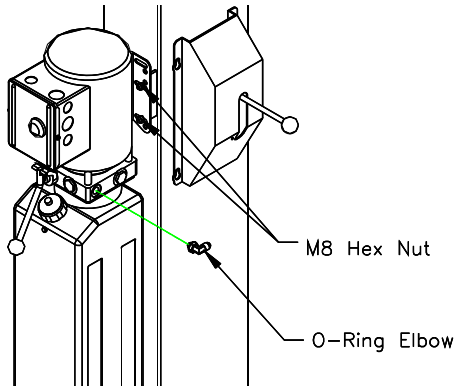

Fig 5 – Power Unit Mounting
- 18) Mount Power Unit to power column as shown in **Fig 5**. The mounting hardware, (4) M8 hex nuts, are pre-installed on power unit mounting bracket.